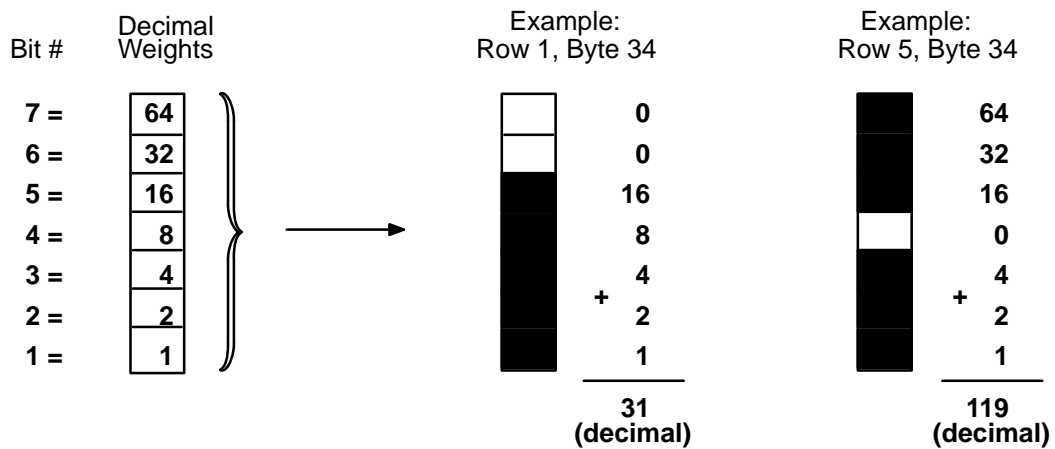

Figure 5–6. Logo Design
- Define the logo, and return to the form to add the logo data. The HandCraft logo is a hand with a sailboat as plotted in Figure 5–6. (Use the Logo Grid in Appendix C to plot the dot positions for your logo the same way.) Drawing the logo out on a grid permits the dot positions for each vertical data byte in the logo to be computed and input as data in the Plotting Graphics (Q) command. Notice that where dot positions are *not* computed, the boat image in the hand emerges. The complete program for the HandCraft logo starts on page Figure 5–6.
For example, the following values have been assigned to bits 1 through 7 for the first 0.1-inch row of data bytes (1 through 42) shown in Figure 5–6. Each byte was first calculated in decimal and then converted to the equivalent hexadecimal value (using the ASCII chart in Appendix A). The hexadecimal values are the data for the program shown on page 5–14.
Following this scheme, all hex data bytes for an entire 0.1 inch row (seven vertical dot rows) of the logo can be calculated. Subsequent rows are calculated similarly. To print each 0.1-inch row of the logo, the print position is shifted down 0.1 inch using the Justification command, and then same vertical data byte columns are used. (See the second example in Figure 5–6.)